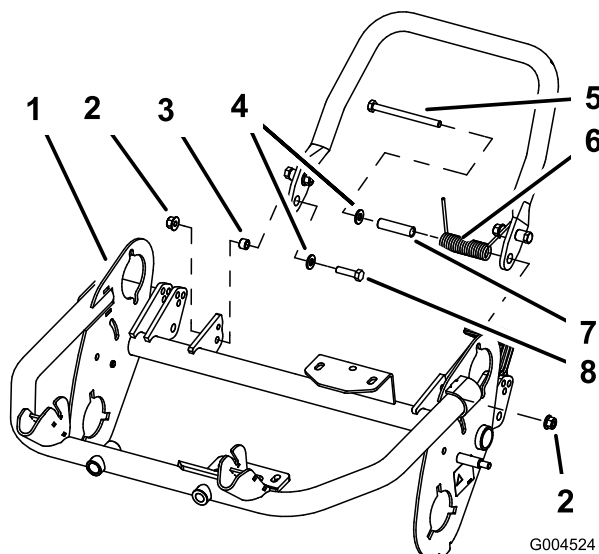

Figure 6
the kickstand to the frame with the bolt and washer, the small spacer, and locknut (M8-1.25) (Figure 6). Ensure the bolt is installed from the inside of the frame as shown in Figure 6.
Important: When installing the spring, place one end of the spring under the rear frame (Figure 6).
5. Install the left side of the kickstand to the frame with the bolt and washer, the large spacer and spring, and locknut (M8-1.25) (Figure 6). Ensure the bolt is installed from the inside of the frame as shown in Figure 6.